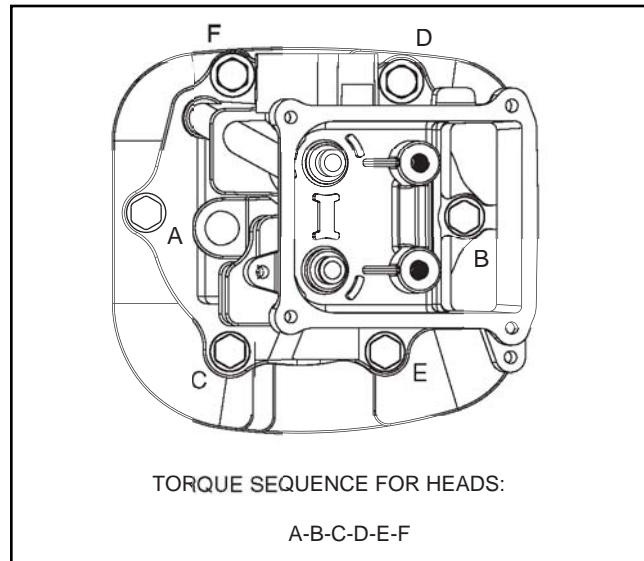

Figure 13-13. Install Cylinder Head
- a. Torque head bolts in sequence shown (Figure 13-13) to 29.9 Nm (22 ft. lbs.).